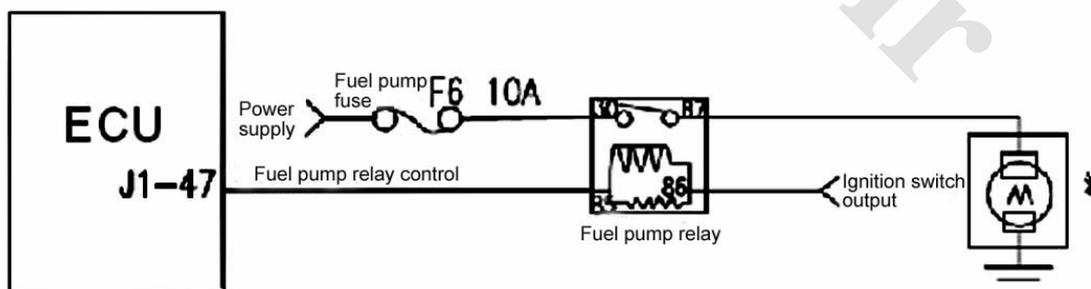

Fig. 1-12
(1) Function: To deliver fuel in the oil tank to the engine with a certain oil pressure and volume, not greatly affected by temperature and voltage.
(2) Structure and principle: The fuel pump consists of DC motor, vane pump, and end cap (integrating check valve, pressure release valve and anti-electromagnetic interference element), which shares the same axle and housing with the motor. The pump and motor in the housing is surrounded by gasoline, which can be used for cooling and lubricating material. The battery supplies power for the electric fuel pump through a relay. The relay is connected with the fuel pump only when the engine starts and operates. When the engine stops due to some troubles, the fuel pump will stop automatically. The maximum pressure at the outlet of the fuel pump will be decided by the pressure release valve. As no-oil-return system is adopted, the fuel pressure regulator is installed on the fuel pump assembly. The fuel pressure regulator can adjust the pressure of the fuel pump to 380 kPa to meet the demand of the system.
(3) Connection of the wiring diagram (Fig. 1-12)